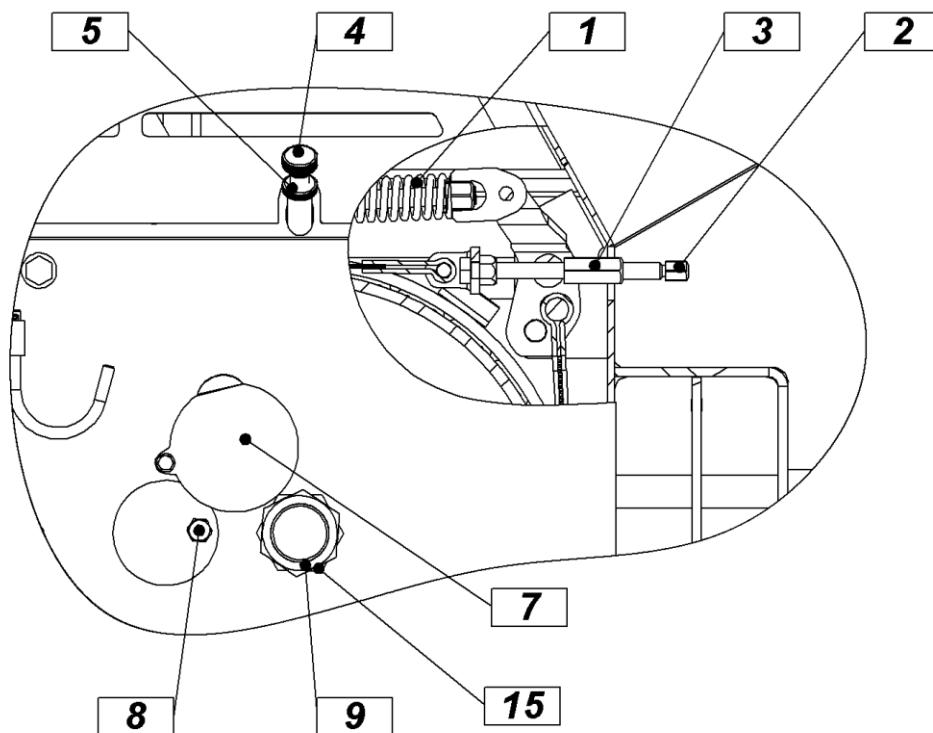

Figure 11
Perform the setting by unscrewing the nut (pos. 9, figure 11), which is the safety nut, to the left. Then, tighten the high nut (pos. 15, figure 11) to the right. In this position, there is no distance between the clutches. Then, unwind the nut for one turn to the left – this creates a gap between the lamellas of approximately 4-5 mm. Retighten the safety nut (pos. 9, figure 11) to the right. This protects the high nut from unwinding. Engage the motor and PTO shaft, pull out the rope and begin controlling the adjustment.
If, despite not engaging the right button for pulling, the rope starts to move, then the distance between the clutches is too small. Increase it for approximately 1 millimeter or repeat the setting procedure by unwinding the high nut for ¼ of a turn to the left. Engaging pulling is not allowed, if the nuts (pos. 9 and 15, figure 11) are not installed on the shaft, because the hydraulic cylinder of the clutch gets damages, because the maximum permitted travel is only 8 mm!
Set the pre-brake with screw (pos. 4, fig. 11) and nut (pos. 5, fig. 11). By rotating the bolt to the right, the brake force is increased, with rotating to the left, the brake force is decreased. Then tighten the wing nut, which prevents the bolt to loosen automatically. Proper setting ensures that the wire rope does not roll off the drum automatically or excessively. This would cause loose winding and damage to the wire rope at fast disburdening of the brake and unwinding. Preliminary brake is properly set when unwinding of the rope is still possible without excessive effort. If you pull the rope uphill, it is possible to additionally disburden the brake, so that rope towing is easier, the bolt (pos. 4, figure 11) must be returned to its original position immediately after.
At the end of pulling, the differential brake automatically engages. Brake is factory set to brake force, which is 25% greater than the nominal towing force of the winch. By wear of the brake pad, the brake force changes, therefore it has to be set again. This is needed, when the brake does not hold the load as described in the beginning of this paragraph. Set the brake force by loosening or tightening the screw (pos. 2, fig. 11) and loosen the safety nut (pos. 3, fig. 11) beforehand. When tightening the screw (pos. 2, fig. 11), the brake force decreases, and when loosening the screw, the brake force increases. After finishing setting tighten the safety nut (pos. 3, fig. 11). Correctly set band brake in the on position disables the load to slide backwards, and in the off position, it enables smooth pulling of the rope from the winch.
First, remove the triangular protective net on the winch column. Then rotate the cover (pos. 7, figure 11) and rotate the drum in a position, which enables unscrewing of the bolt (pos. 8, figure 11) on the drum. Insert the wire rope in the guide of the upper pulley and direct it through the upper pulley to the rope drum. Insert the rope in the groove and tighten the bolt (pos. 8). Then start to wind according to the procedure, which applies to towing. Once the entire length of the wire rope is wound, unwind it again and wind it again strongly according to the procedure, which is described in the chapter "Wire rope unwinding" to prevent damage to the rope.